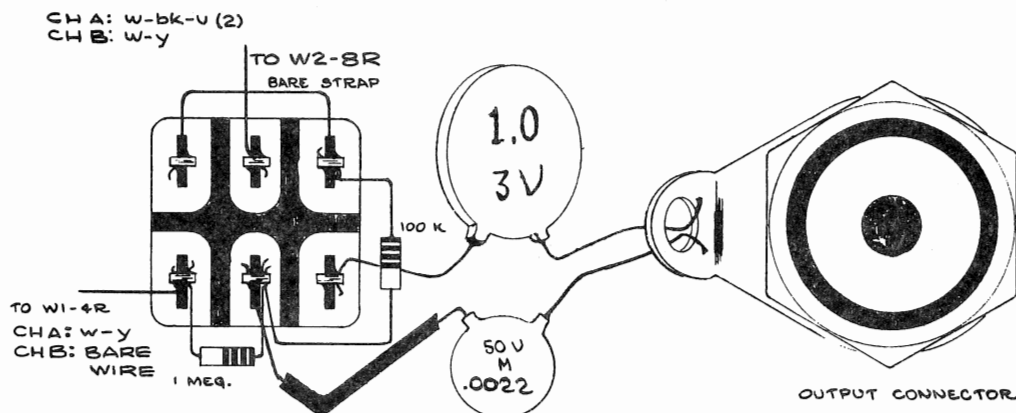

Fig. 10
(Applies only to SN 155-318, with exceptions. These exceptions may be determined by comparing the wiring of either INTEGRATOR LF REJECT switch with Fig. 10. If they are the same, omit steps D-1 through D-19.)
- ( ) Resolder it to the terminal indicated in Fig. 10.
- ( ) Cut off the excess wire and solder, along with the white-black-violet wire (from kit), to the switch terminal indicated in Fig. 10.
- ( ) 8. Resolder the remainder of the components and wires as indicated in Fig. 10, using the bare wire from the kit.
- ( ) 15. Solder the 2-1/2 in. length of white-yellow wire (from kit) between the 'B' SELECTOR switch W2-8R and the switch terminal indicated in Fig. 10.
- ( ) Place a 1 in. length of plastic tubing (from kit) over the wire and dress the wire to the switch terminal indicated in Fig. 10. DO NOT SOLDER until the next step.
- ( ) 17. Resolder the components and wires to the switch as indicated in Fig. 10, using the bare wire from the kit.